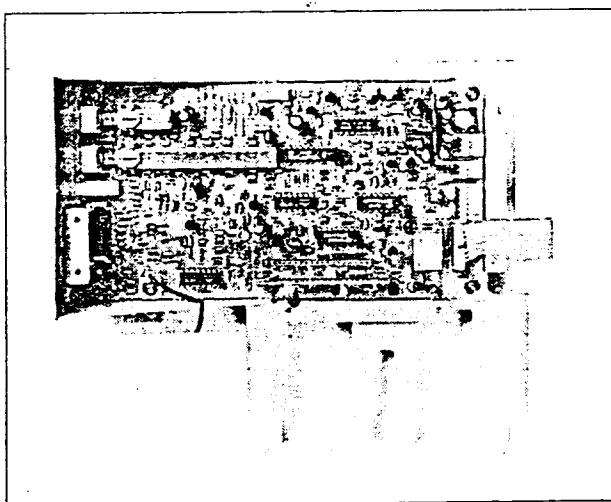

FIG. 9
4. Then pull out the shielded cover from installed position (Fig. 9).